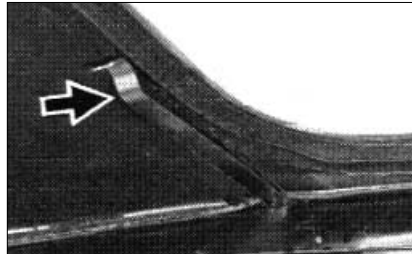

Figure 7
- Install the spring supports through the cuts in the material from the inside of the vehicle (Figure 7). For holding the alignment of the spring supports, a second person is needed.
- Drill one 3.2 mm hole through the spring support and into the tensioning bow and secure the spring support so that it is parallel with the rear window opening (Figure 7).